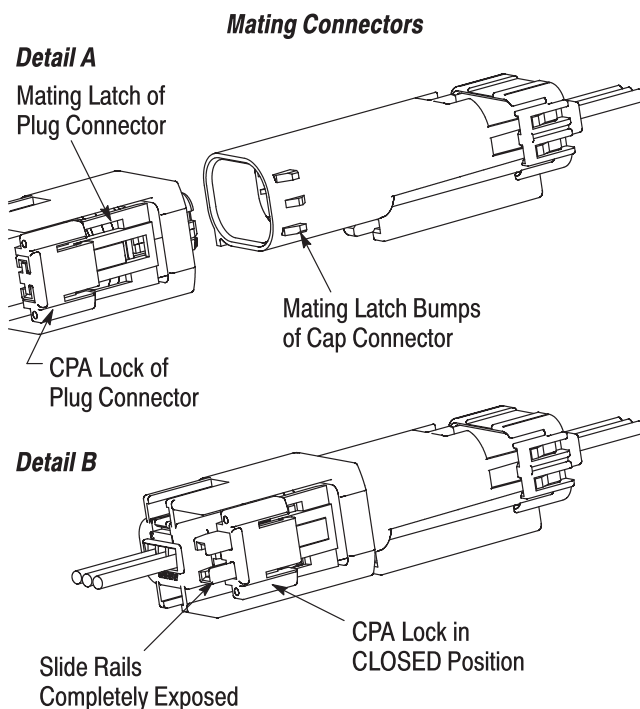

Figure 6
1. Align the mating faces of the connectors so that the three mating latch bumps of the cap connector are on the same side as the connector position assurance (CPA) lock of the plug connector. See Figure 6, Detail A.
3. Slide the CPA lock of the plug connector toward the cap connector until it is in the CLOSED position. The CPA lock is in the CLOSED position when the slide rails are completely exposed. See Figure 6, Detail B.